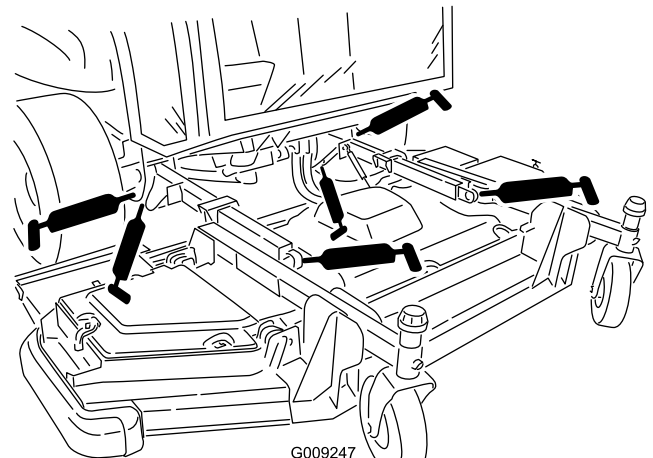

Figure 54
- Lift arm bushings (2) (Figure 54)
- Lift arm ball joints (2) (Figure 54)
- Front Deck Lift cylinder pivots (2) (Figure 54)